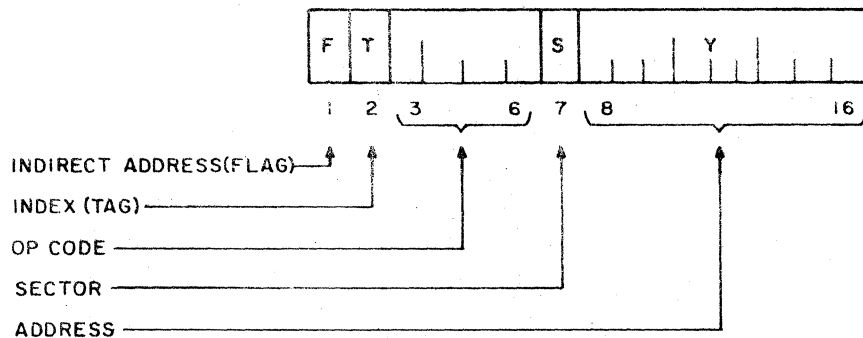

Figure 1-4. Memory Reference Instruction Format
The basic instruction word format in the PCU is that for a memory reference instruction, which is shown in Figure 1-4. Bits 3 to 6 contain the operation code, which defines the function to be performed. For example, if bits 3 to 6 contain 0110 (06)8 the instruction is identified as an add instruction; if they contain 1001 (11)8 the instruction is a compare. For ease of communication, operation codes are generally expressed either in octal or as a mnemonic. "Subtract," for example, which has an op-code bit configuration of 0111, is referenced in machine language as (07)8 and has a mnemonic of SUB. The latter is the way the programmer writes an op code when programming in the PCU assembly language.